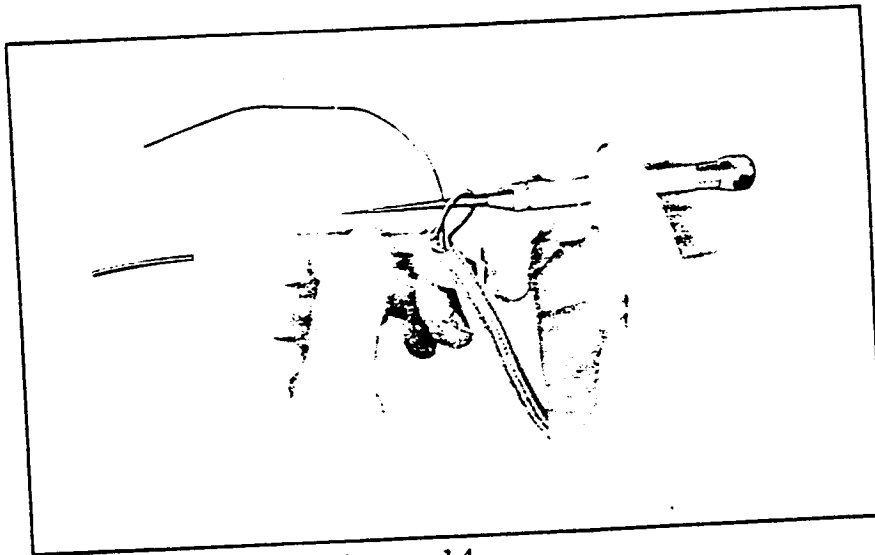

Figure 14
b. Push the strands apart with a scribe until the wires can be pulled through, figure 14. Avoid breaking the strands of braid or fracturing the insulation.